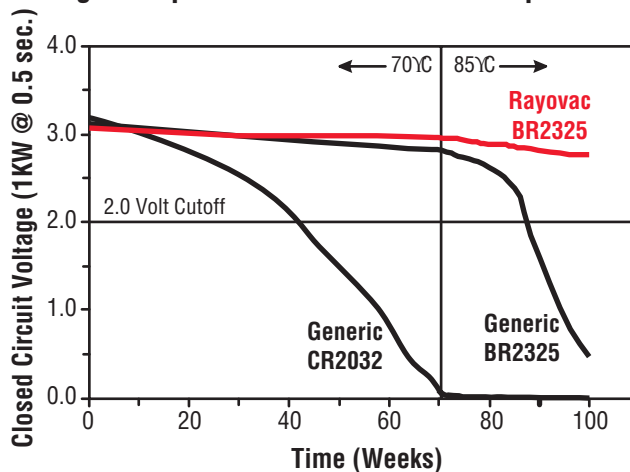

Figure 4
The advantage of Rayovac BR Lithium coin cell performance after high temperature storage is further illustrated in the figure on the right. Figure 4 shows how the BR2325 coin cell compares with other lithium carbon-monofluoride (BR) and lithium manganese dioxide (CR) cells when stored at high temperature. The data presents the results of weekly closed circuit voltage measurements on-a-1KΩ load at 0.5 second duration after high temperature storage. The test was started at a-storage temperature of 70°C and then later increased to 85°C to allow for the temperature limitations of the CR cell.